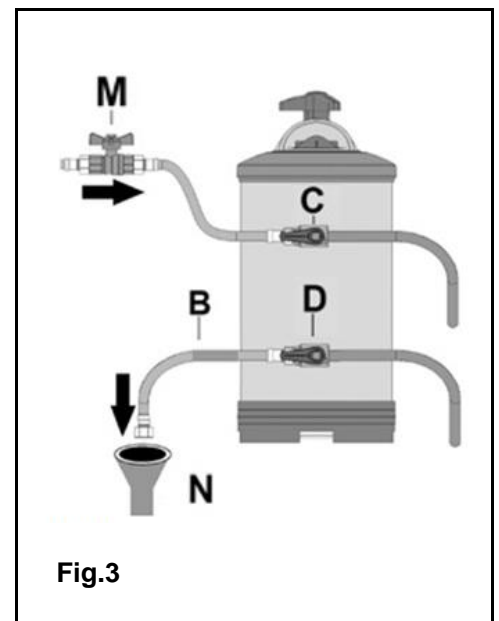

Fig.3 Rinsing Resin
- Place the Outlet hose(Fig.3, B) on the Floor sink.(Fig.3, N)
- Turn the Inlet and Outlet valve levers(Fig.3, C-D) to the left.
- Open the Water valve(Fig.3, M) to let water in.
- Close the Water valve(Fig.3, M) and connect Outlet hose(Fig.3, B) to OPTIMA.